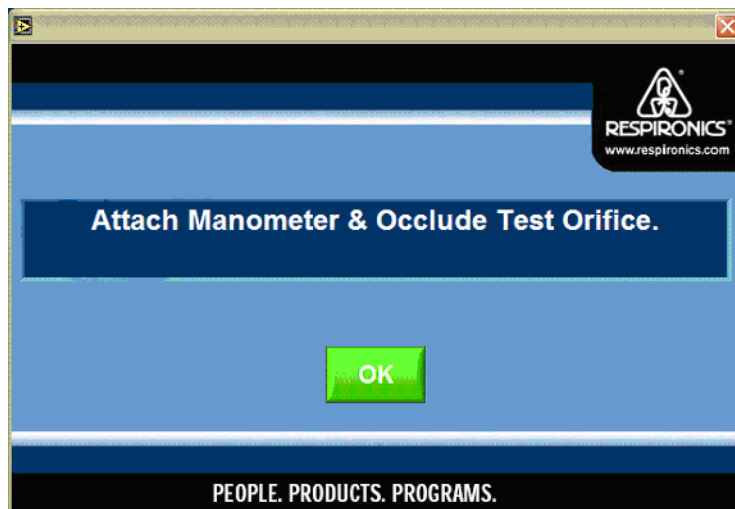

Figure 7-21: System Calibration
13. When the prompt in Figure 7-21 appears, the program is ready to start sensor calibration. Attach the manometer and occlude the test orifice then click **OK**.